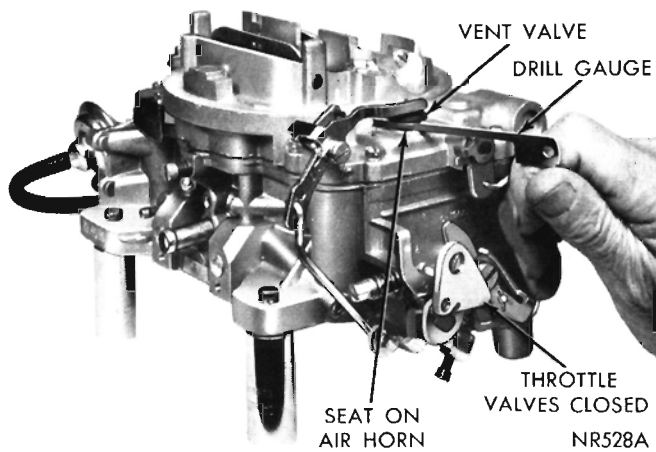

Fig. 18—Bowl Vent Valve Adjustment
- (1) With throttle valves tightly closed, insert a 1/8 inch drill between air horn and valve at smallest opening (Fig. 18).
- (2) If an adjustment is necessary, bend adjusting tang (on pivot end of lever) until correct opening has been obtained.